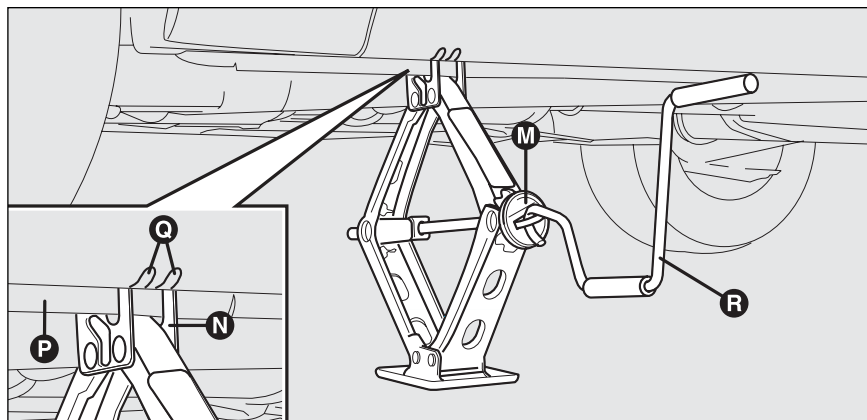

fig. 7
- ☐ work the jack crank **M-fig. 7** to extend it until the groove **N** on the upper part of the jack is correctly inserted on the lower profile **P** of the body in point **Q** (at approx. 72 cm from the front wheel centre or 75 cm from rear wheel centre);
- ☐ fit the handle **R-fig. 7** to operate the jack and raise the car until the wheel is a few centimetres from the ground;
- ☐ work the jack handle **R**-fig.7 to lower the car and remove the jack;